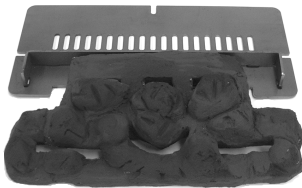

Fig 4a
Step 1 Place the base matrix on the matrix plate centrally between the end tabs of the location bar. (Fig 4a)